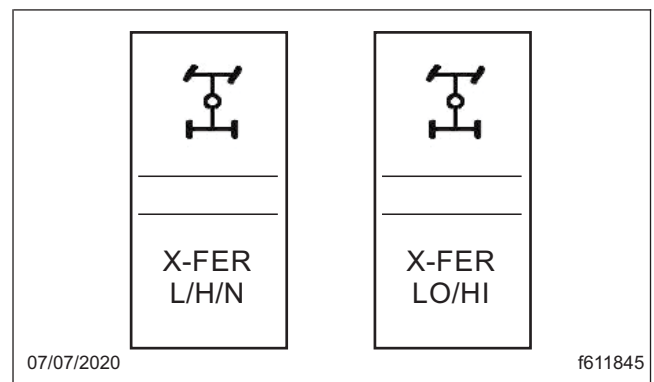

Fig. 4.21, Transfer Case Range Switches
There are two possible transfer case range switches: a two-position rocker switch with LO and HI range, or a three-position switch that has a third, neutral (N) position, for vehicles with a PTO unit. See Fig. 4.21.